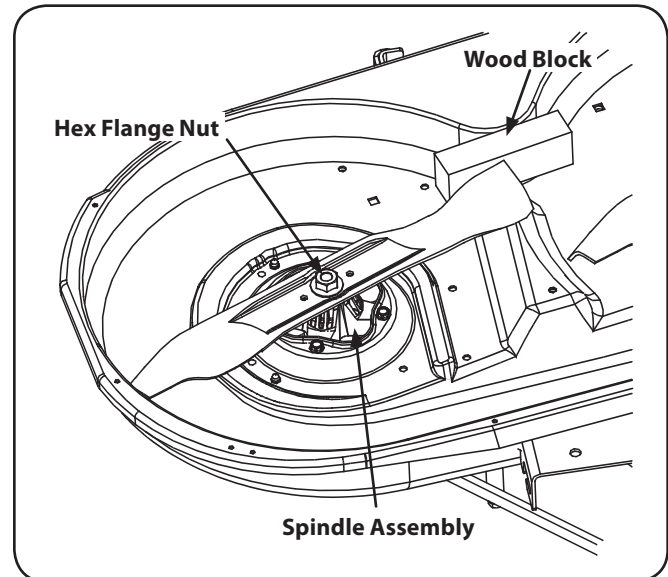

Figure 7-9
2. Use a $\frac{15}{16}$ " wrench to hold the hex nut on top of the spindle assembly when loosening the hex nut securing the blade. A block of wood may be placed between the deck housing and the cutting edge of the blade to help in breaking loose the hex nut securing the blade. See Figure 7-9.